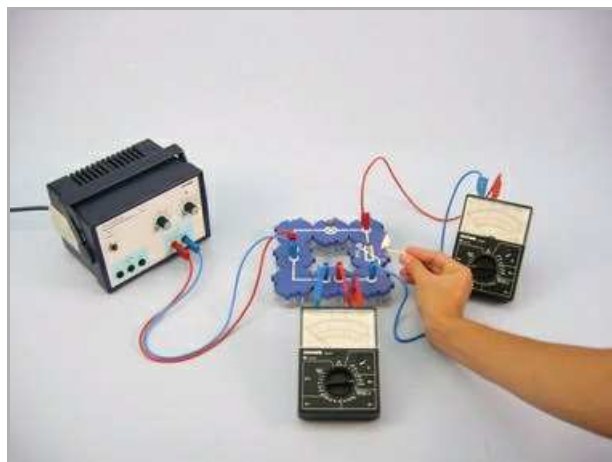

Fig. 5
- Warm PTC resistor with a lighted match, as shown in Fig. 5.